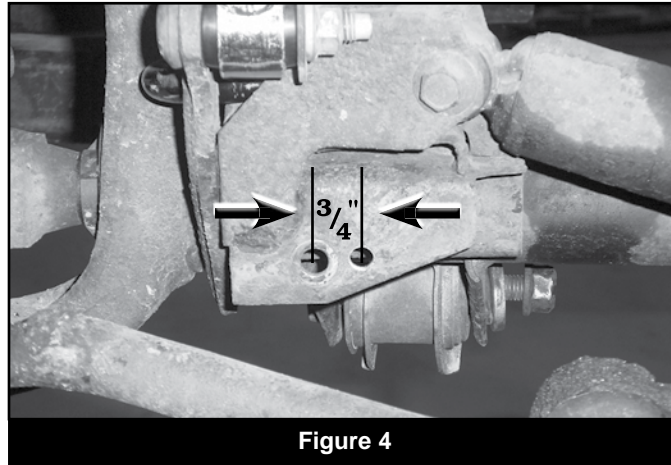

Figure 4
18. Locate the factory track bar mount on the passenger's side of the axle. Measure from the center of the original track bar mounting hole  $3/4$ " toward the driver's side and mark. Drill a  $13/32$ " (10.3mm) hole at the mark through the front and back faces of the track bar mount (Fig 4). This will be the new trackbar mount. Do not install the track bar at this time. Do not attach the track bar until the vehicle is on the ground.